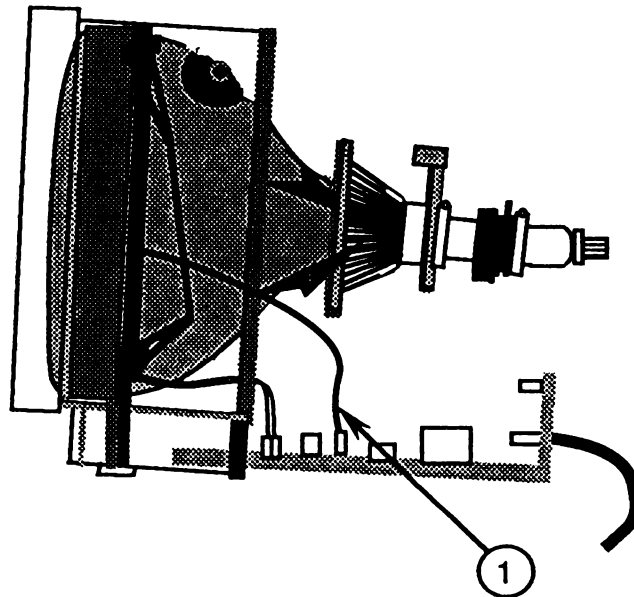

FIGURE 16
7. Disconnect the degaussing coil ground strap (Figure 16, #1) from the connector marked **W** on the main logic PCB.